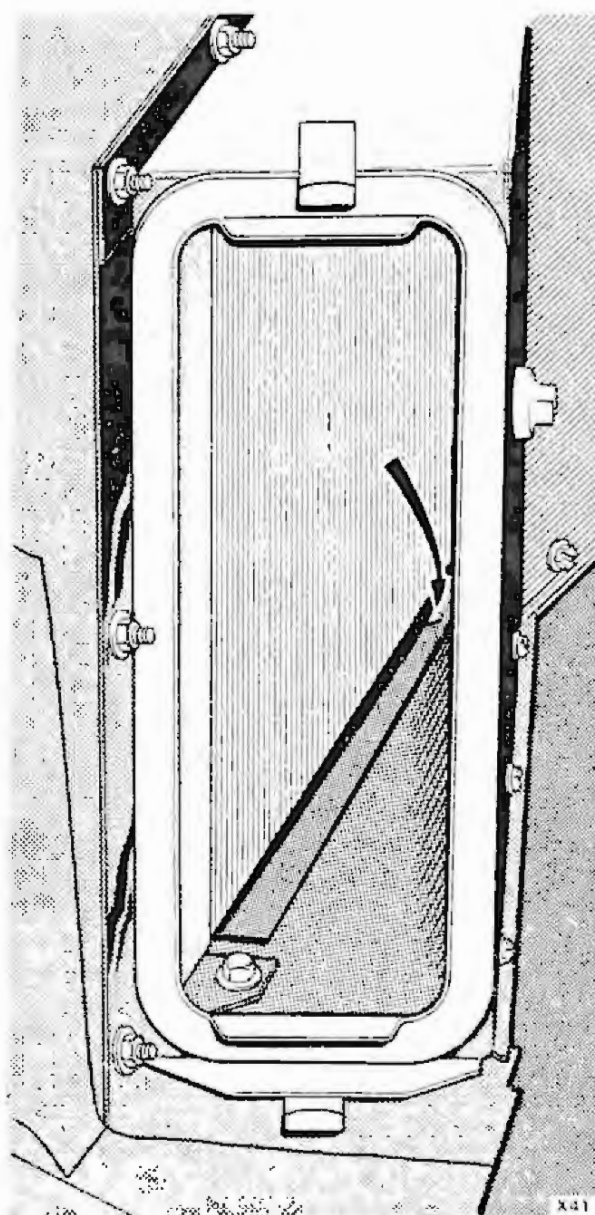

Fig. 2.
5. Using a torch to look inside the evaporator box and a length of 3,17 mm (0.125 in) diameter welding rod with one end approximately 38 mm (1.5 in) long bent at a right-angle, remove any debris from the evaporator box drain tray. Ensure that no debris falls into the drain pipe hole, which is positioned directly under the centre of the evaporator matrix as shown in figure 2. Pour approximately 0.5 litres (1 pint) of water into the evaporator drain tray and ensure that the water drains away.